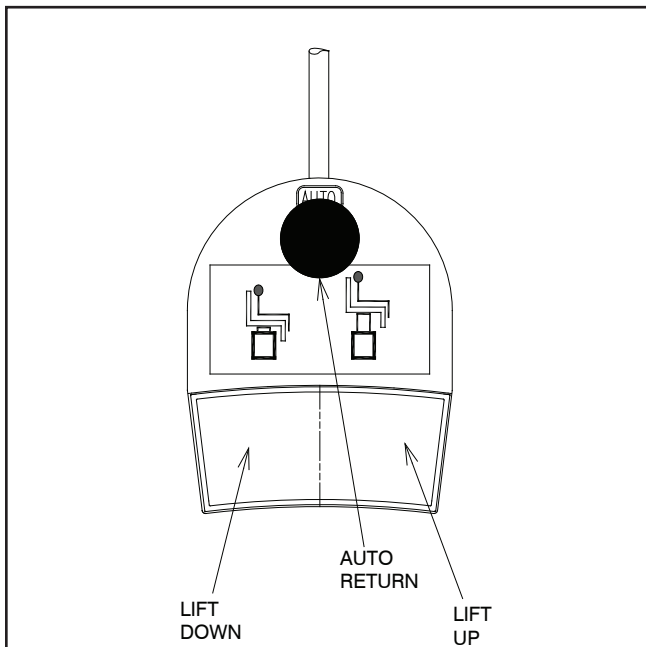

FIGURE 3
- For operation from the footswitch (Figure 3), depress the right side of the pedal to raise the chair lift.